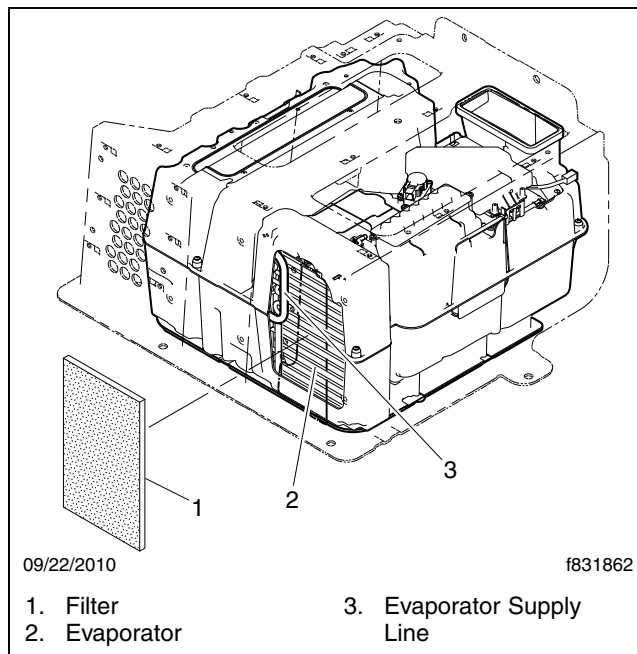

Fig. 24, Evaporator Line Check (cabinet not shown for clarity)
- One check of the refrigerant level is to touch the A/C line leading to the evaporator (it can be accessed from the filter opening without removing the unit). See **Fig. 24**. When the compressor is running this line should be cold and covered in condensation. If this line is not cold, the unit is likely low on refrigerant, or experiencing another refrigerant loop problem. On systems built after July 2011, also check the high side line going to the evaporator to see if it is hot.